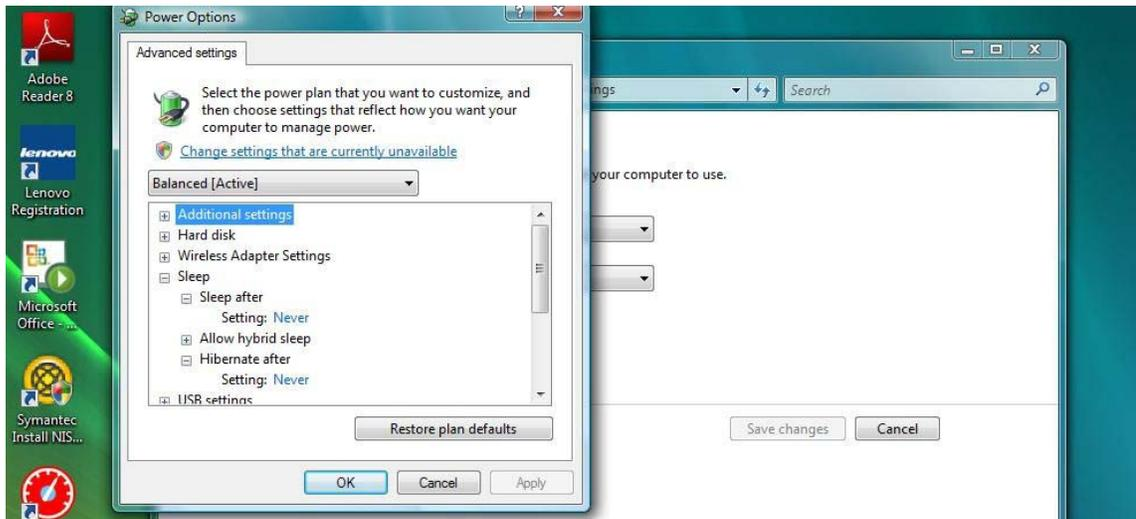

FIG. 53
5. Find "Sleep" in the scroll list (FIG. 53). Change the "Sleep after" setting to NEVER and the "Hibernate after" setting to NEVER.
6. Click the Apply button to save these changes. Then click the OK button (FIG. 53).